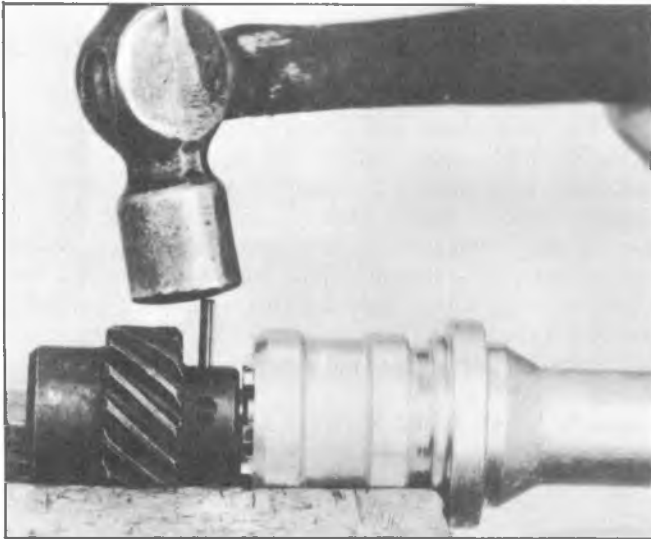

Fig. 6D-9i--Roll Pin Installation
9. Install lock ring (Fig. 6D-8i) and then connect green electrical lead of pole piece and plate assembly to G terminal of module. Then connect white lead of pole piece and plate assembly to W terminal of module.
Removal (Fig. 6D-10i)